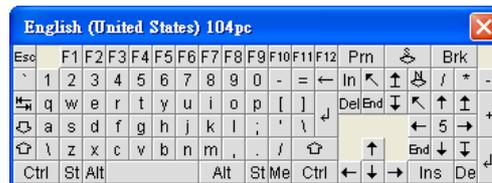

Figure 10-9 Soft Keyboard
- Soft Keyboard: A virtual keyboard for easy input. It also provides localized keyboard mapping. Please refer to Figure 10-9.